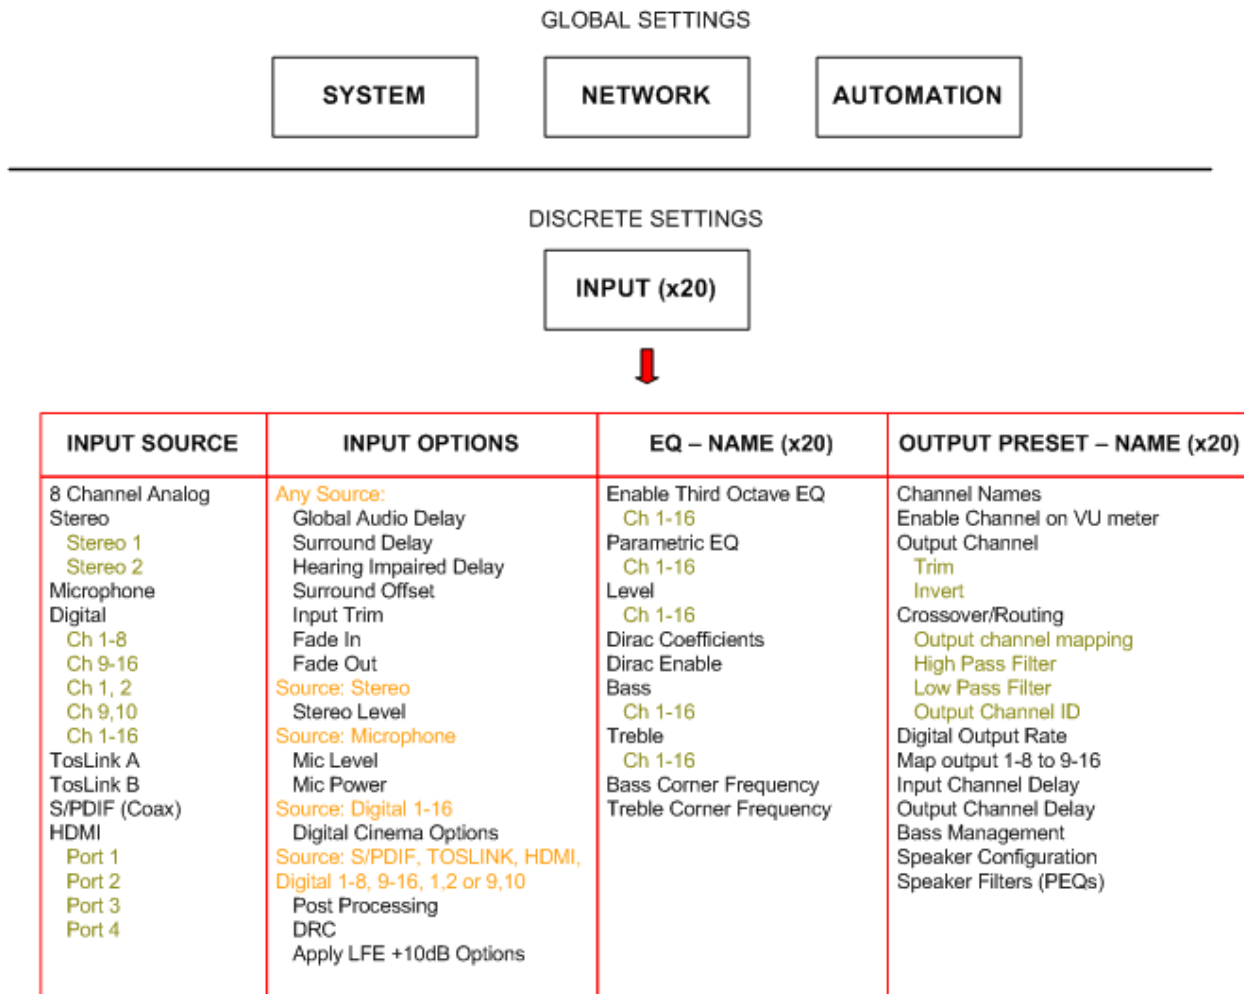

Figure 17. Global Settings and Input Discrete Settings
The RS20i facilitates the process of creating customized audio input presets. While the RS20i comes with a set of pre-built Input Presets (see table below), an installer normally adds Input Presets, as well as deletes or changes the existing pre-built presets to fit the requirements of the installation. We use the term “Input Preset” to mean a selection that includes not only the input source, but additional configuration items that have been set for that input source. An Input Preset consists of an Input Source, Input Options, EQ Setup, and an Output Preset, as illustrated below in Figure 17.
Figure 17 shows specifically which configuration items are included in an **EQ Setup** or **Output Preset**. **Input Options** configurations are also shown. Some **Input Options** are applicable only for specific Input Sources. The chart displays what Input Source must be selected for each **Input Option** configuration item. Global configuration items are those that are not assigned with the Input Preset. Global configuration includes items such as System Setup, Automation and Network configuration.
**Note: Use this chart in Figure 17 to determine what group a specific configuration item belongs to, when creating multiple EQ Setups or Output Profiles.**